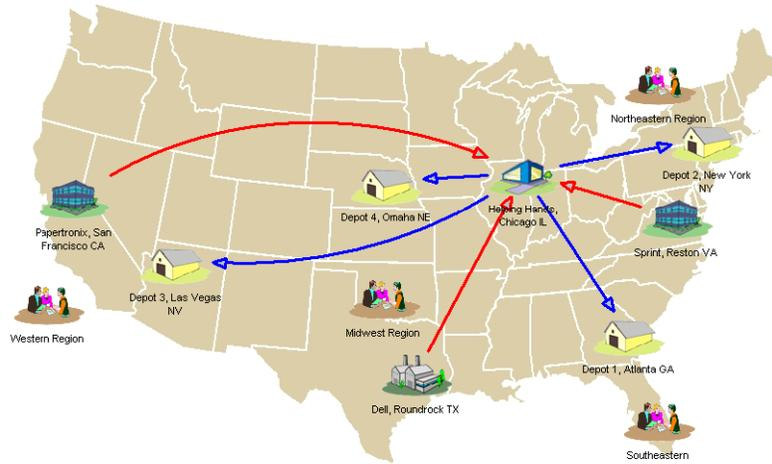

Figure 4. Place the customers on the map.
- 5) Place the customers on the map. (Figure 4)